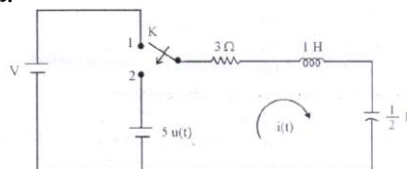

Fig.6.56
29. In the circuit shown in Fig.6.56, the switch is thrown from position 1 to 2 at $t = 0$. Just before the switch is thrown, the initial conditions are $i(0^-) = 2\text{A}$ and $v_c(0^-) = 2\text{V}$. Find $i(t)$ after the switching action, using Laplace transform method.